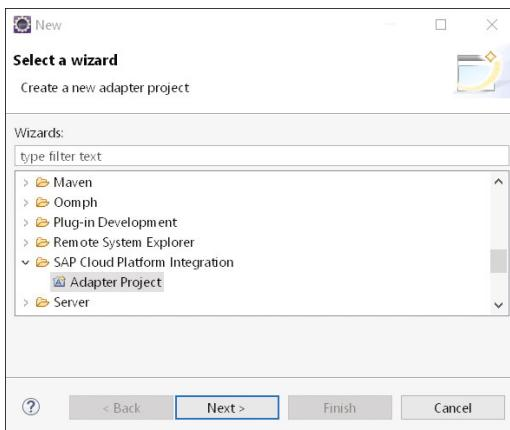

Figure 6.97 Selecting a Wizard for an Adapter Project
2. On the next screen, expand the **SAP Cloud Platform Integration** node, and select **Adapter Project** (Figure 6.97).